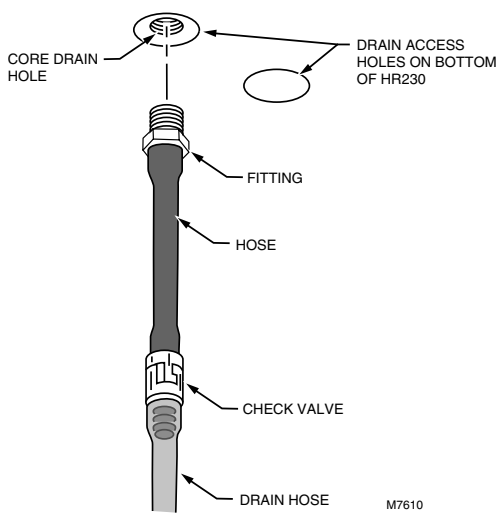

Fig. 2. Remove drain hose.
1. Remove the drain hose(s) from the bottom of the check valve. Turn the check valve and fitting out of the bottom of the ventilator. Use a wrench or pliers to loosen the fitting, if necessary. See Fig. 2.